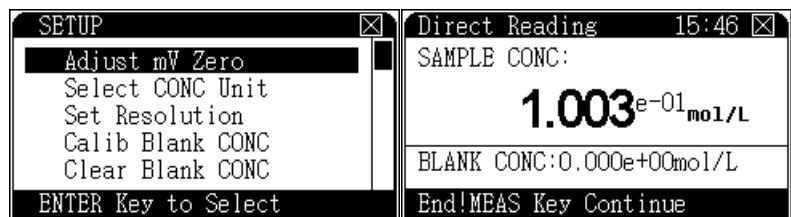

Figure 29 Calculated result
- 6** When the reading becomes stable, press [**Enter**] and the meter calculates measurement result as shown in Figure 29.